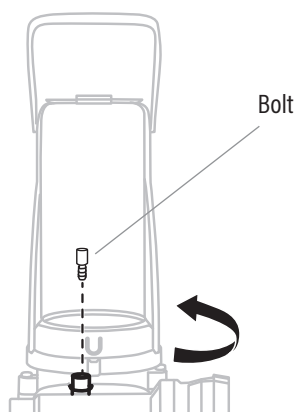

Fig. 3B
3. Rotate the chute to give access to the bolt installation. (Fig. 3B)
4. Install and tighten the bolt. (Fig. 3B)
1. Unscrew and remove the bolt. (Fig. 3B)